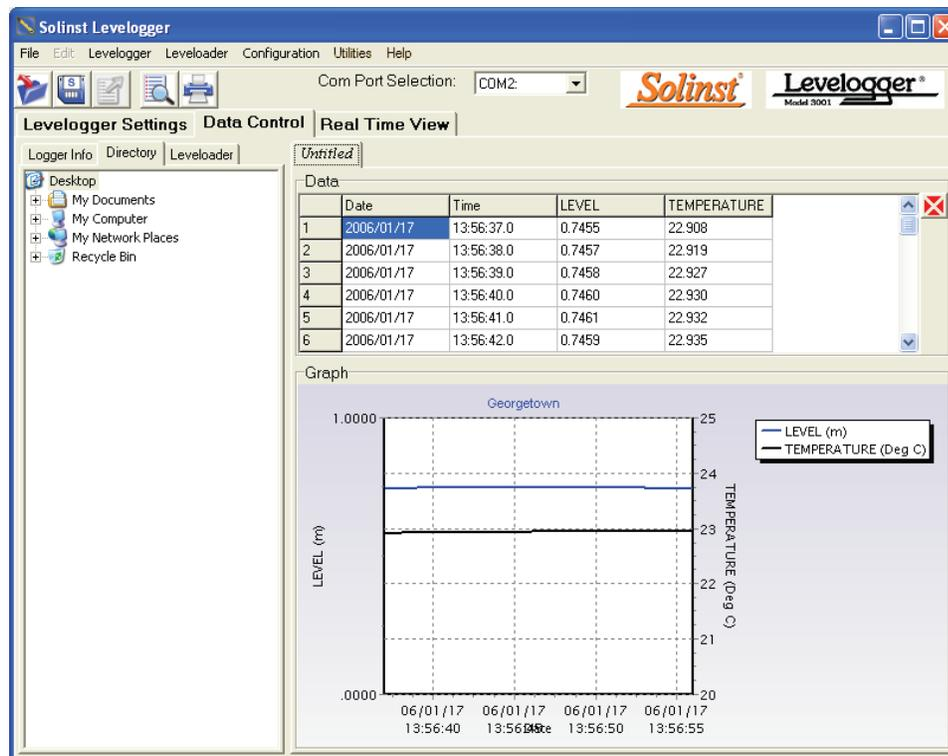

Figure 3. Data Control Window and Directory
- Conductivity (Figure 3) can be determined by selecting either mS/cm or µS/cm.
If the Levellogger's clock has not been synchronized with a computer, click the "Enable" box on the mid-right side of the status screen (Figure 3). Input pertinent information. The settings for the logging session should be completed as this point, click the button with the red arrow to send all the settings to the Levellogger. Once complete the Levellogger can be started.
To store specified settings as defaults, click the blue folder with a right hand red arrow icon (Figure 3). The program will store the settings of the Levellogger into an \*.lls file. The \*.lls file will save the following settings: Project ID, Location, Sample Mode, Event Percent, Sample Rate, Altitude, Density, Channel ID, Unit and Offset.
In order to retrieve settings from a default setting, click on the blue folder containing a left hand arrow icon (Figure 3). Keep in mind that Project ID and Location identification information will be identical and should be distinguished from logger to logger or point to point.